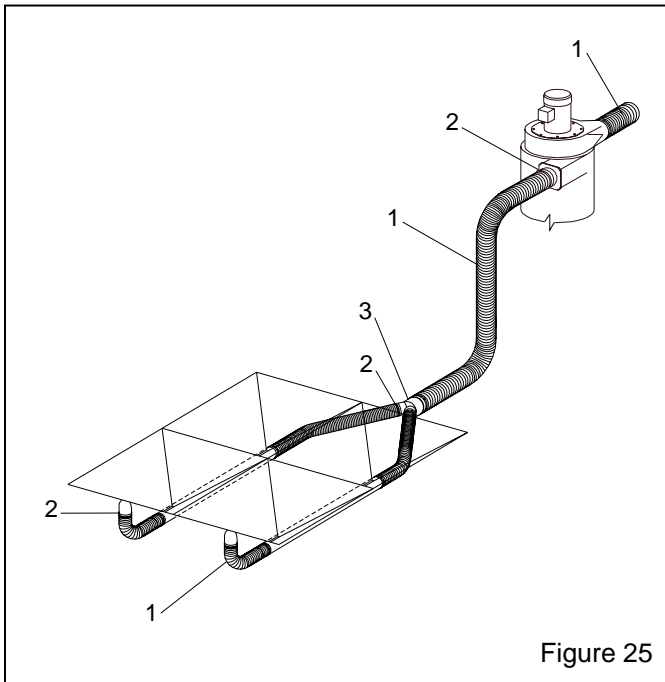

Figure 25
9.9 Flex Hose & Wye Adaptor, Figure 25